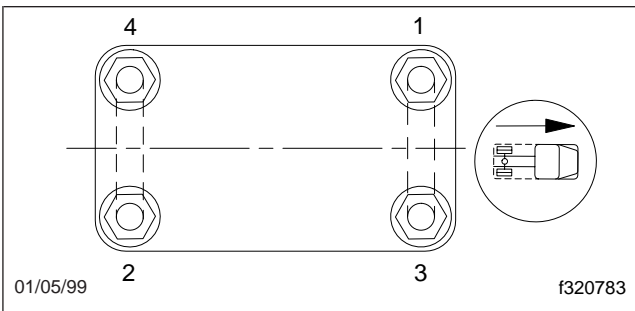

Fig. 6, Tightening Sequence for U-Bolt High Nuts
* Tighten in the sequence shown in **Fig. 6**.